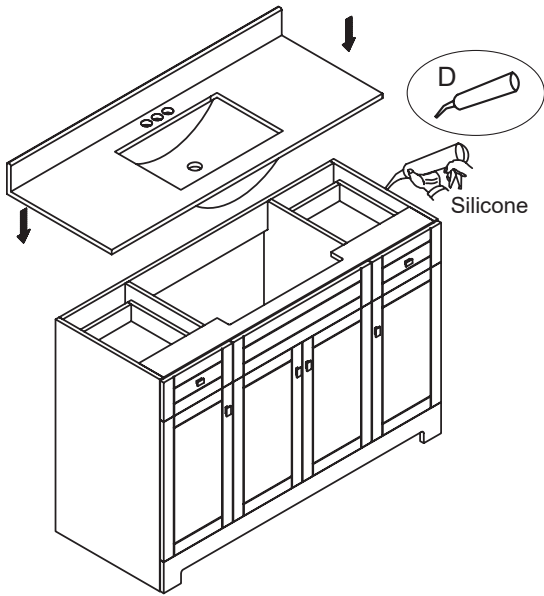

Figure 3
- 6: Place the vanity top centered on the vanity base. Figure 3. For additional stability, clear silicone (D - not included) may be used to secure the vanity top onto the vanity base.